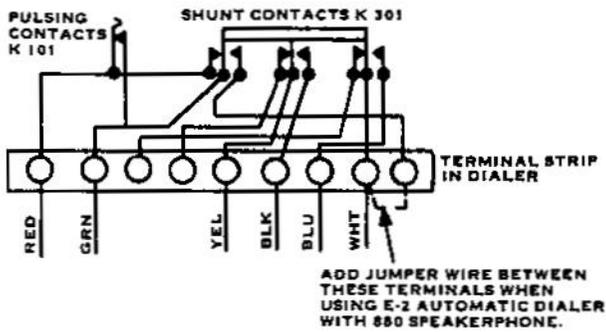

Figure 7. Terminal Strip, Basic Dialer Unit.
5.40 In the basic dialer unit, strap the WHT lead to its adjacent vacant terminal (Figure 7).
5.42 Connect the basic dialer unit transmission leads to the position dial or turret dial. If the position circuit is contained, in whole or in part, within the cabinet (cord-type units and some turrets), provide a terminal strip on which to terminate the basic dialer unit transmission cord and make the interconnection. If the dial is merely cabled to external equipment (some turrets), connect the basic dialer unit transmission cord to the terminal strip, strips, or block already provided for the turret cable. A vacant terminal is required for termination of the GRN lead of the basic dialer unit transmission cord. Figures 7 and 8 show interconnections for two common arrangements of dial off-normal springs. If the PBX or PABX position circuit does not make use of all of the off-normal springs provided on the dial, the basic dialer unit transmission cord leads for the corresponding contacts in the basic dialer unit need not be connected. First, modify the connections within the basic dialer unit as shown, so that the pair of the basic dialer unit cord leads are connected to a set of break contacts on off-normal relay K301 instead of to the usual set of make contacts.
(c) Jumper the dialer terminal board as shown in Figure 7.